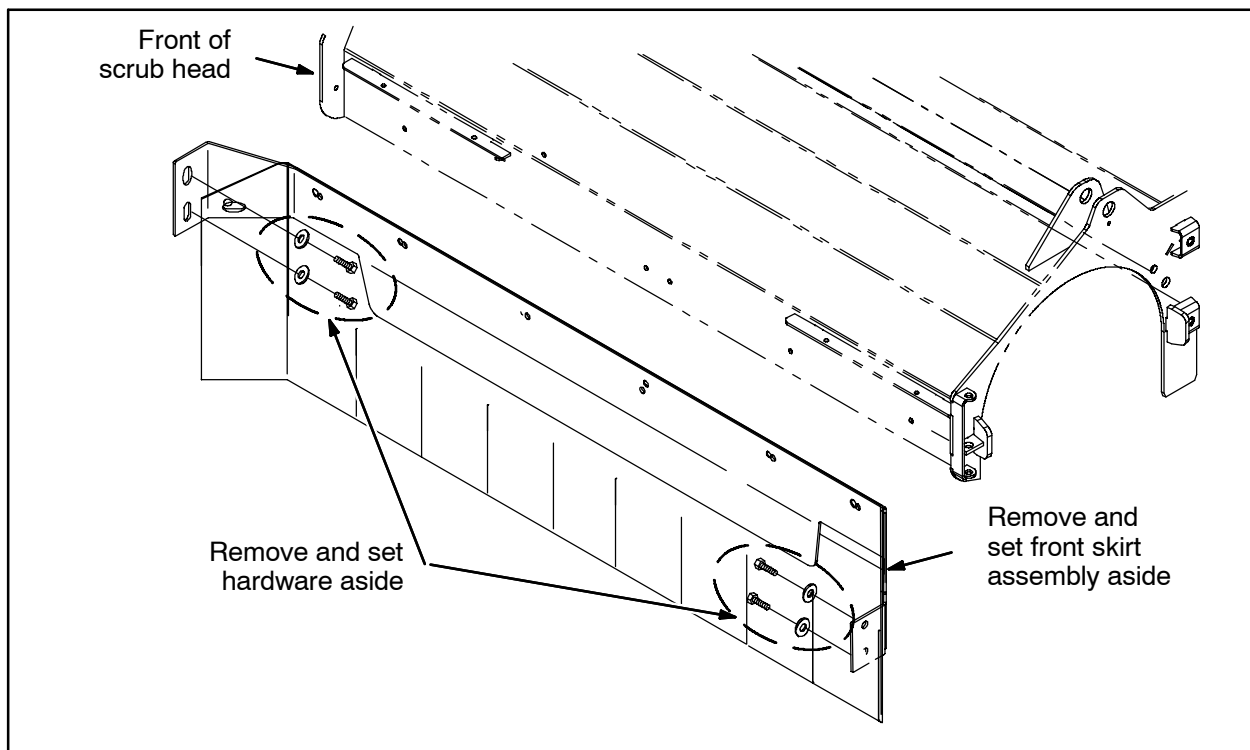

FIG. 1
8. Remove the front skirt assembly from the machine. Set the front skirt assembly and all hardware aside. Refer to Fig. 1.
9. Use several cable ties (4) to secure the 20" hydraulic hose (2) to the brush return tube (5).
10. Reinstall the front skirt assembly onto the machine. Refer to Fig. 1.